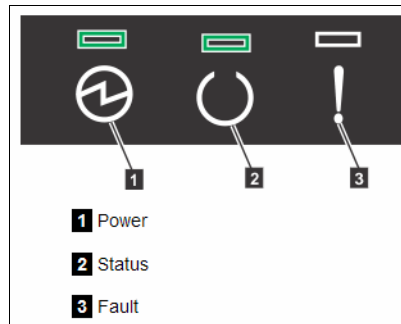

Figure 6-43 Model AFF expansion enclosure LEDs
2. Verify that the expansion enclosure powered on successfully by checking the LEDs on each canister. See Figure 6-43.